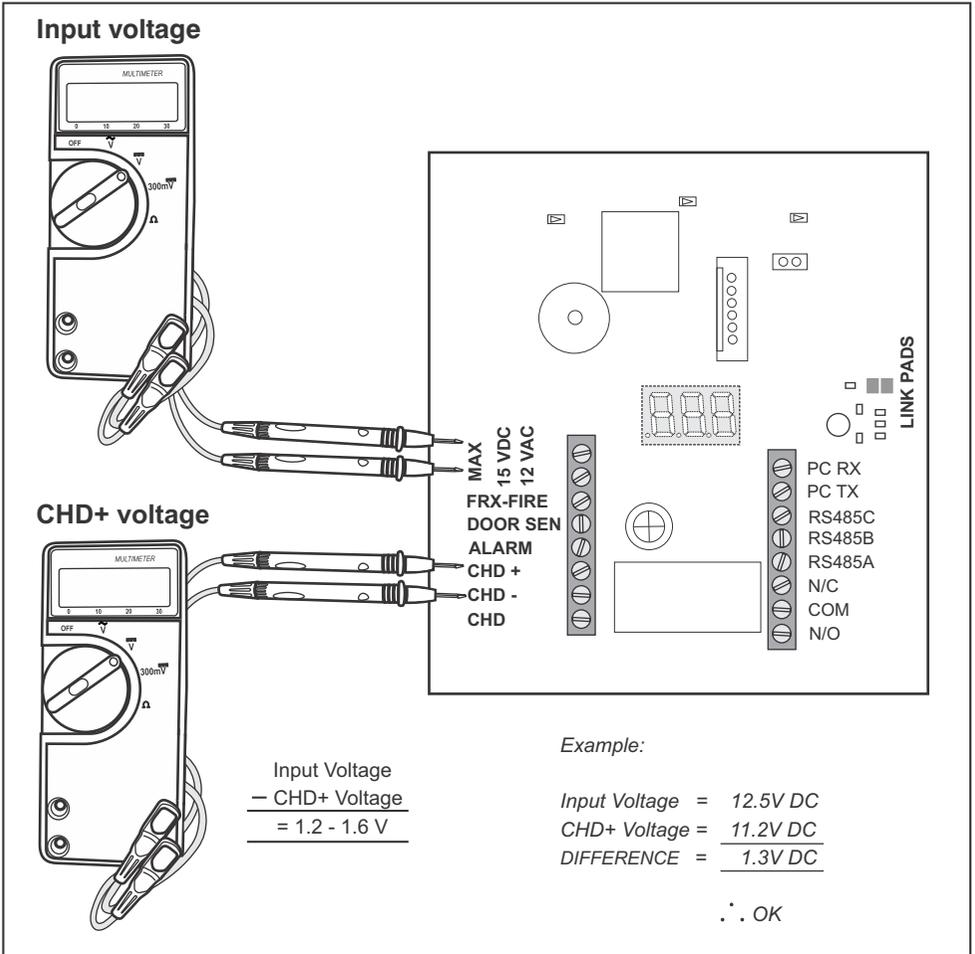

Figure 2 Input and CHD+ Voltage
3. Measure and note the input voltage on the power supply pins as shown in figure 2.
4. Measure and note the voltage on the CHD- and CHD+ terminals as shown in figure 2.